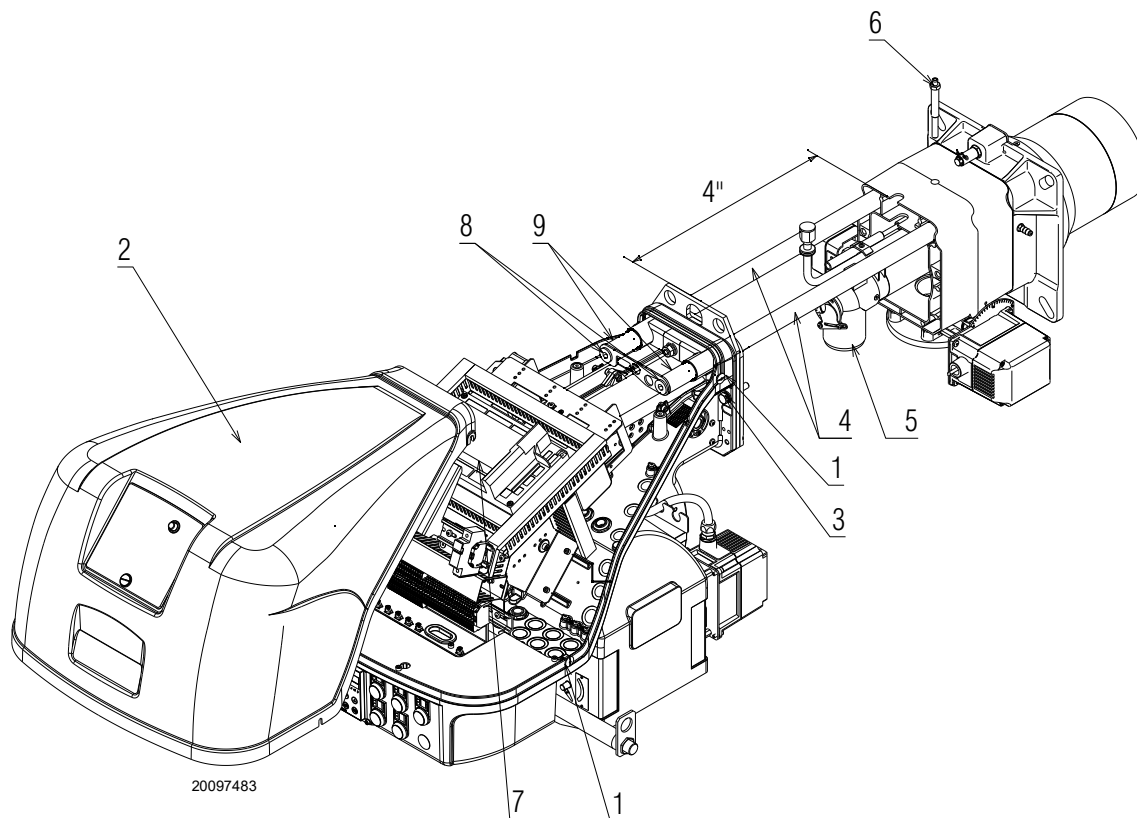

Fig. 43
In case of doubt, disassemble the inner part 5)(Fig. 43, page 33).
- loosen the 4 screws 1)(Fig. 43) and remove the cover 2);
- remove the 2 extensions 9)(Fig. 43) and re-screw the screws 8) on the sliding bars 4);